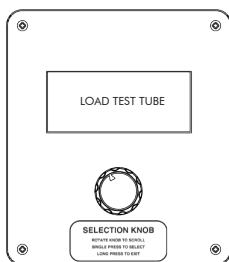

fig. no.26.2
- **TUBE CHECK** (fig. no.26.2)